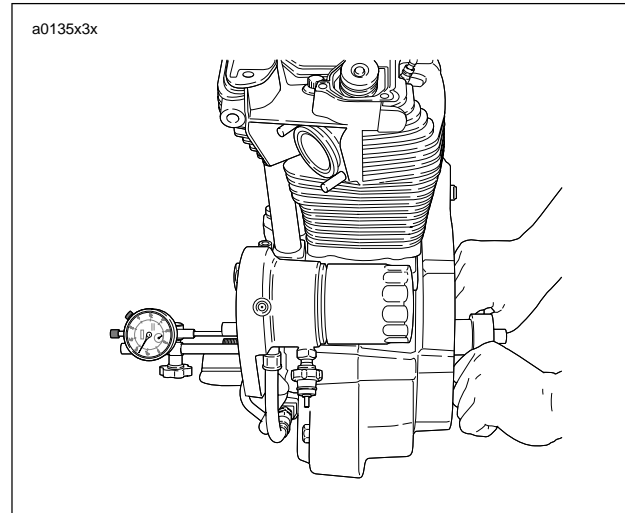

Figure 3-114. Checking Flywheel End Play
3. See Figure 3-114. Attach a dial indicator to gear side crankcase with indicator stem on end of gearshaft.